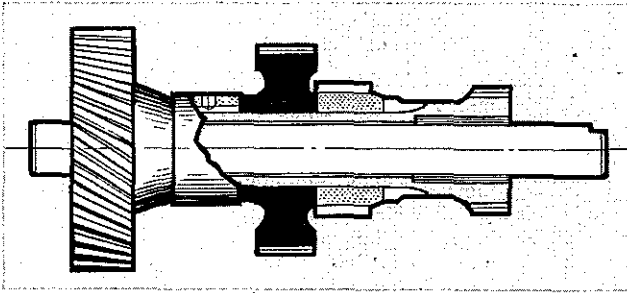

Fig. 13. Showing correct positioning for gears on countershaft viewed from right
5. Assemble countershaft noting the position for these gears, observed in operation 17 above for assembly. Note position of gear and boss offsets in Fig. 13.